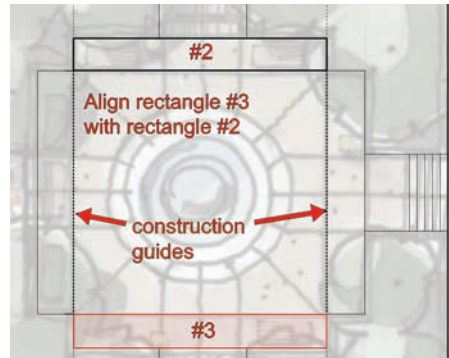

Fig. 7-11: Align the edges of Rectangle 3 with Rectangle 2.
2. Use the Tape Measure tool to draw construction guides from the right and left edge of Rectangle 2 to the bottom edge of Rectangle 1. At the intersection of the construction guides and Rectangle 1, draw Rectangle 3 to finish defining the interior plaza space (Fig. 7-11).